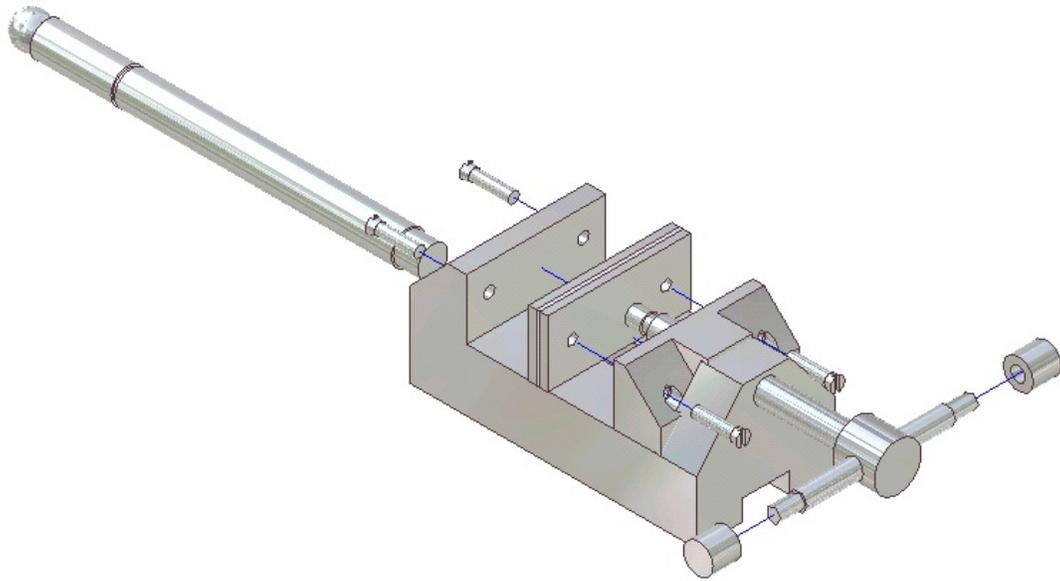
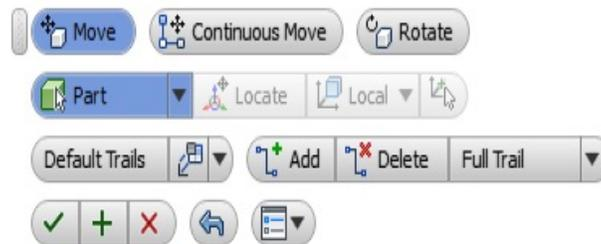

Figure 13-6 Exploded assembly displaying the interfering components
Figure 13-7 The mini toolbar displayed on choosing the Tweak Component tool
*Tip. If the explosion distance is large, the result of exploding the assemblies using the **Auto Explode** method may not be as desired. This is because with a large explosion distance, the components of an assembly will move to a large distance and start interfering with other components, refer to Figure 13-6. Therefore, if components need to be moved to a large distance, you should explode assemblies manually by dragging the green sphere of trails to a desired distance. To display the green sphere, move the cursor over a trail; a green sphere will be displayed at the start point of the trail. Now, you can drag the green sphere to the desired location.*
As mentioned earlier, if the distance by which the components move in the automatically exploded view is large, the components may interfere with one another, refer to Figure 13-6. This figure shows an automatic exploded view, in which the components are moved to a distance of 42 mm. Notice the interference between the Movable Jaw and the Base, between the two Jaw Faces, and between the Clamp Screw and the Base. To avoid such interferences, it is recommended that if the components need to be exploded to a large distance, you should create the exploded view manually by tweaking the components. Tweaking is defined as the process of adjusting the position of the assembled components with respect to the other components of the assembly by transforming them in the specified direction. The components can be tweaked by using the **Tweak Component** tool. The tweaked components can also be animated thus creating the animation of the assemblies. On invoking the **Tweak Component** tool, a mini toolbar will be displayed along with a triad. Figure 13-7 shows the mini toolbar. The options in this mini toolbar are discussed next.